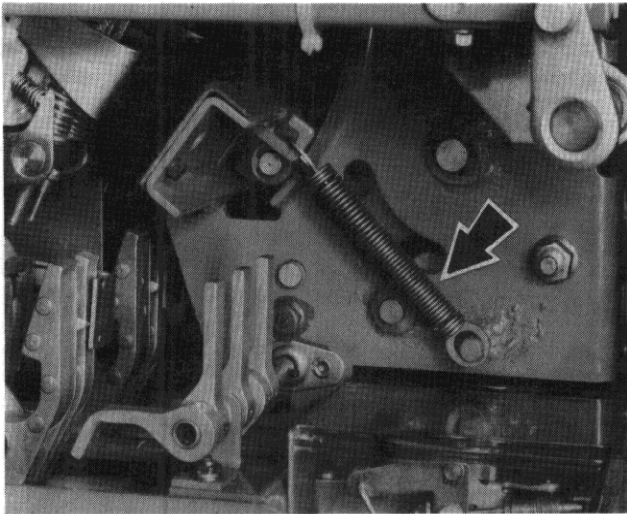

Figure 4
4. Remove' right and left hand accelerating springs (Figure 4).